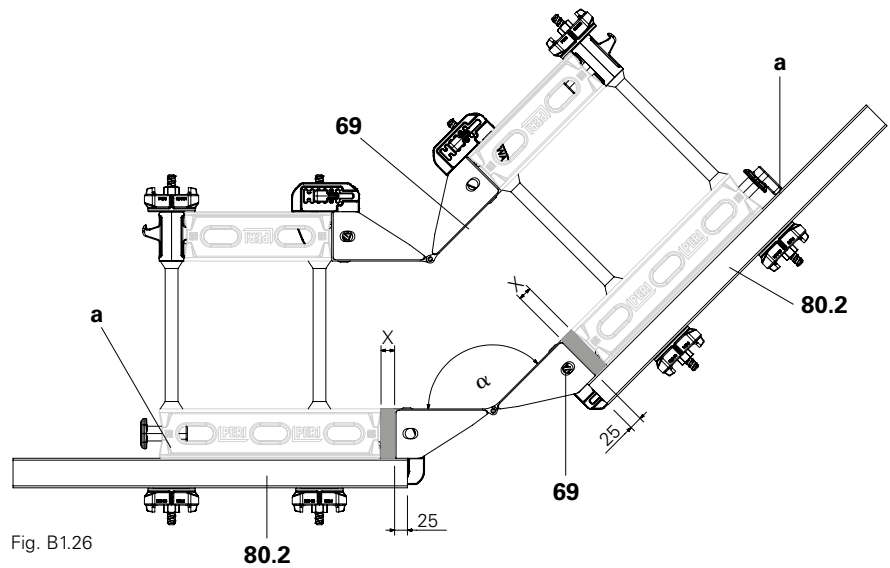

Fig. B1.26
PERI LWR 80 walers (80.1) or LWR 170 walers (80.2) are installed in such a way that they overlap the LIWA articulated corner (69) by at least 25 mm so that the joint between the panels is covered. The number of joints depends on the waler length used. (Fig. B1.26)